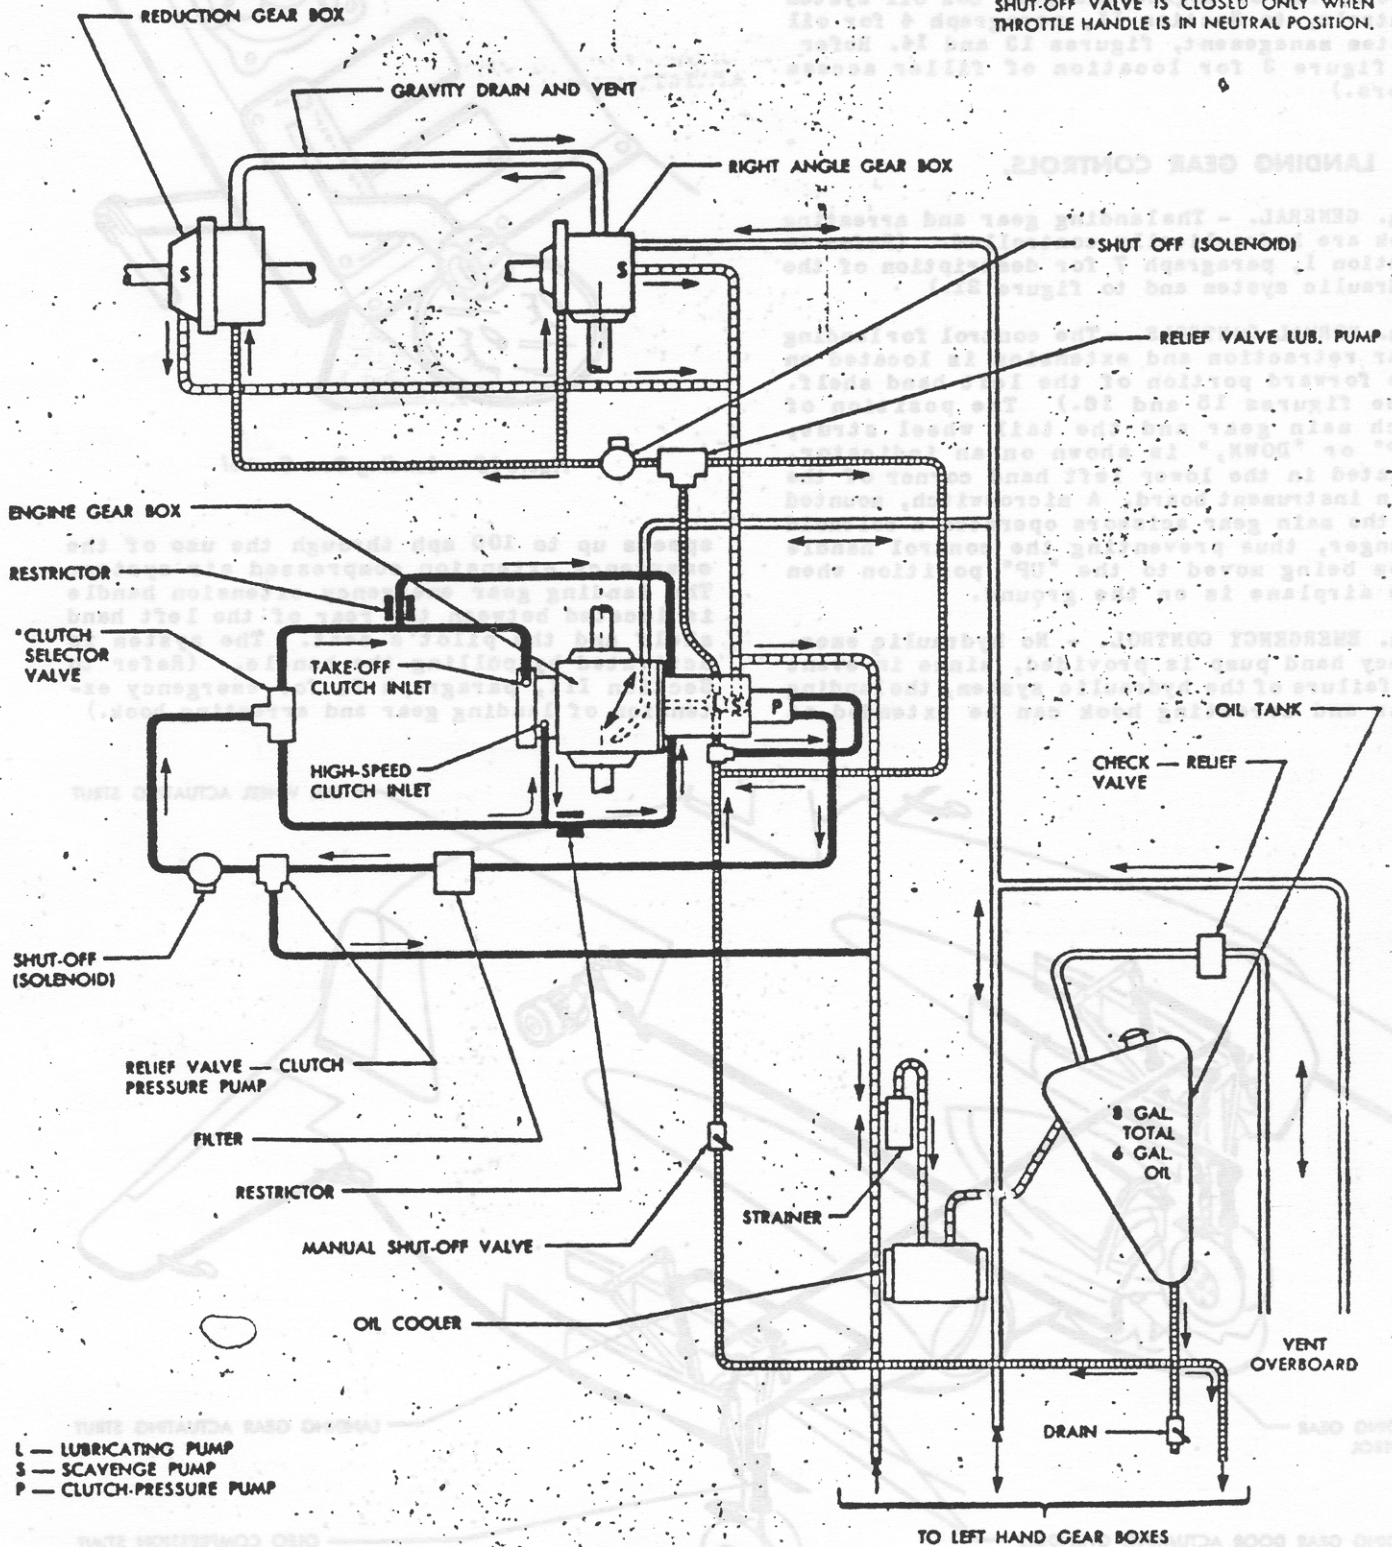

Figure 14 — Gear Box Oil System Diagram
k. GEAR BOX OIL SYSTEM MANUAL SHUT-OFF VALVES. - Left and right hand gear box oil system manual shut-off valves are located in the engine compartment in the line between the gear box oil tank and engine gear box oil pump. (See figure 14.)